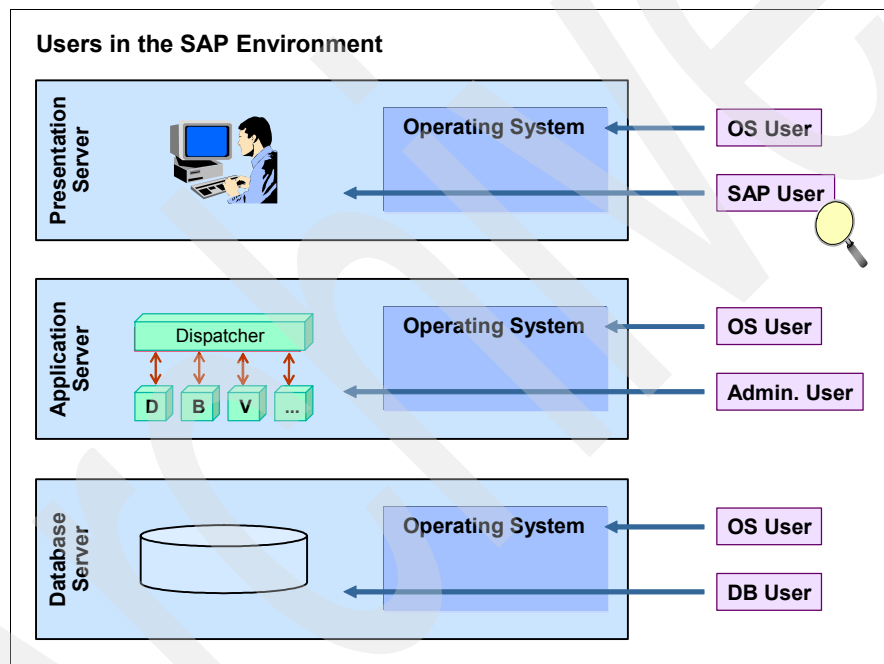

Figure 16-14 Users in the SAP system environment
There are several different users residing outside the SAP system, such as the operating system (OS) user, the database (DB) users, and administrator users. Administrator users (for example, *sidadfr*) and database users (for example, *sapr3*) must log in at the operating system level as Figure 16-14 illustrates.